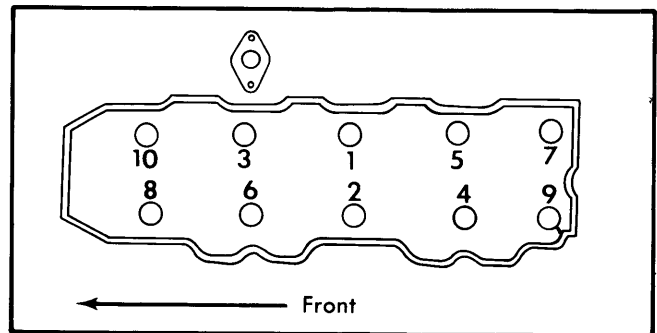

Fig. 1 Cylinder Head Tightening Sequence
2) Paint mating marks on camshaft sprocket and timing chain. Remove rubber half circle seal, distributor drive seal and cam sprocket retaining bolt and remove sprocket from camshaft, allowing sprocket and chain to rest in cylinder head. Remove chain cover bolt, then remove cylinder head bolts in reverse of tightening sequence (See Fig. 1).
3) Pry equally on front and rear of rocker arm assembly and remove same. Lift off cylinder head using care to clear locating dowels. Do not pry between cylinder head and block. To install, reverse removal procedure and note the following: Apply liquid sealer at two front corners of block. Make sure valve timing and clearance is correctly set. Tighten cylinder head bolts in three steps to specified torque and in sequence indicated (See Fig. 1). Set ignition timing statically at 8° BTDC, then reset with timing light.